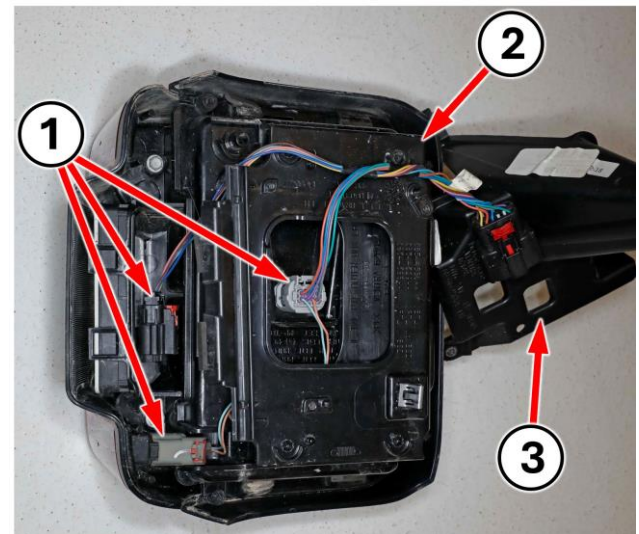

Figure 17 – Wire Harness and Spacer
NOTE: The next steps require the wire harness and mounting bracket assembly (3) from the OLD lamp and the lamp spacer (2) from the NEW lamp (Figure 17).
18. **NEW lamp:** Position the wire harness (1) through the lamp spacer (2) then connect all three electrical connectors (1) to the lamp and BSM module (Figure 17).
19. **NEW lamp:** Position the lamp spacer (2) to the lamp then install and tighten securely the six screws securing the lamp spacer (2) to the lamp (Figure 17).